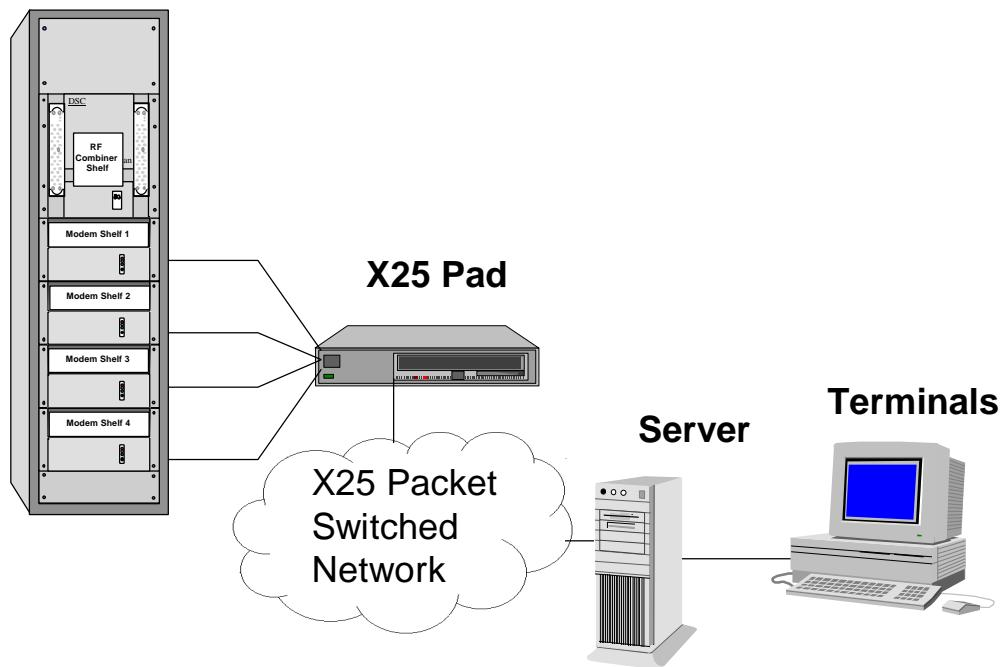

Figure 22. Connection Configuration for a Remote AS8300 Element Manager.
Each Shelf Controller (SC) within an CT communicates via a serial port to an X.25 PAD that serves the four modem shelves in a CT Equipment Rack. (see Figure 22).